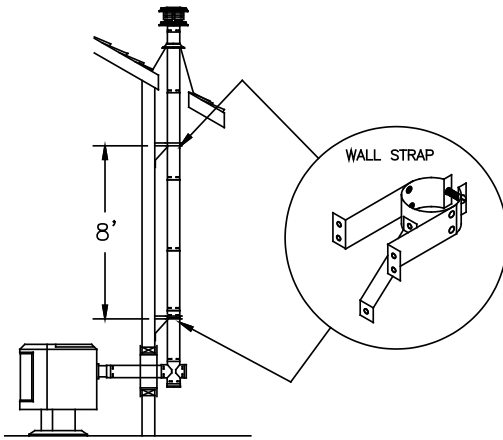
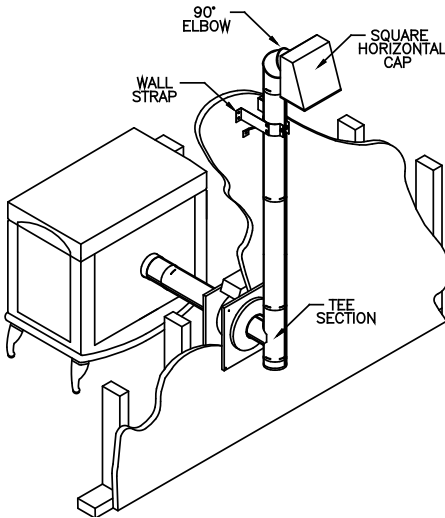

Figure 15
Figure 16
D. Attach Wall Strap just above the tee. Wall Straps must be placed every 8-feet along an exterior vertical run (*Figure 15*). If your exterior vertical run terminates horizontally **before penetrating the roofline**, install at least one Wall Strap on the Pipe Section before 90 Degree Elbow and Horizontal Cap (*Figure 16*). Under no circumstances can a Vertical Cap be installed adjacent to vertical wall. PelletVent Pro offers fixed and Adjustable Wall Straps to maintain a 1"-3" clearance, as desired. If Assemble Pipe Sections in the same manner described in Step 2 of the general instructions.